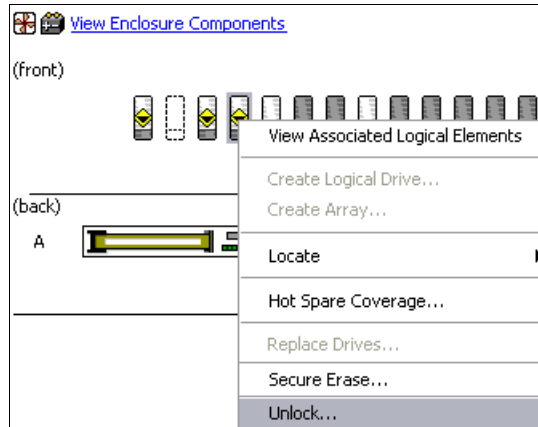

Figure 15-33 Select the Unlock option on the FDE drive
1. From the Physical tab in the Storage Manager window, select one of the FDE drives that has just been installed (it will be marked as offline). Right-click the drive and select **Unlock** as shown in Figure 15-33.